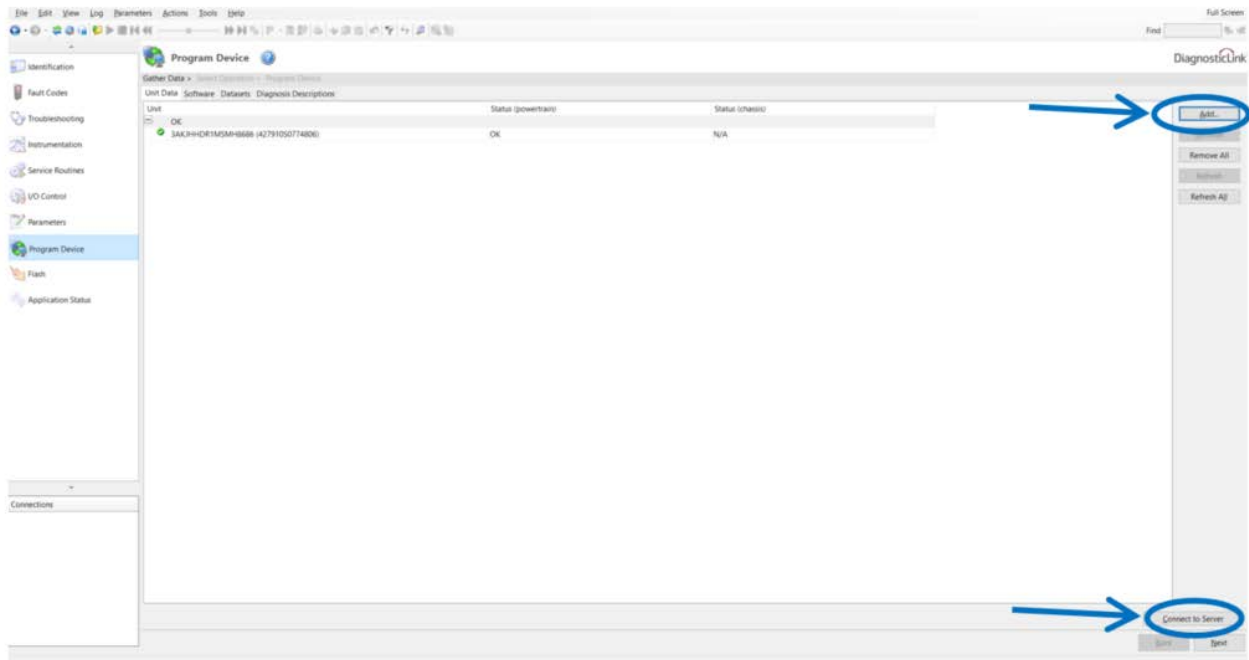

Figure 2 – Adding Engine Serial Number and Connecting To Server
8. Select the “Add” button in the upper right corner of the DiagnosticLink® screen and enter the engine serial number. Then click the “Connect to Server” button in the bottom right corner of the DiagnosticLink® screen. See Figure 2.